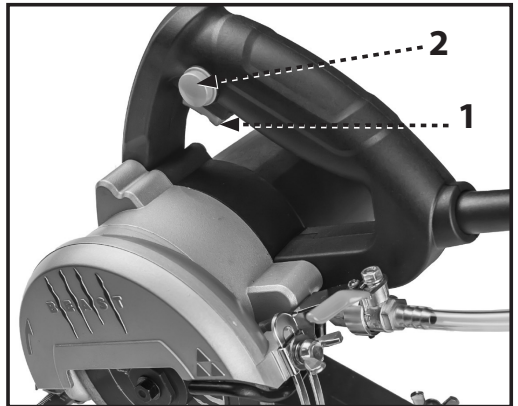

FIGURE 9
4. See Fig. 9. To start the motor, squeeze the trigger switch (1)